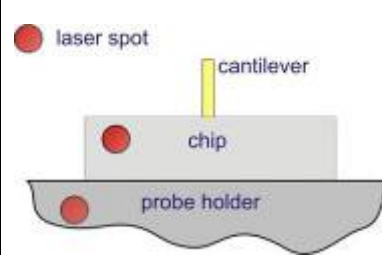

Fig. 2-88
- c. No image at all. This means that the laser beam falls onto the chip or the probe holder (Fig. 2-88) and can not pass through the measuring head.